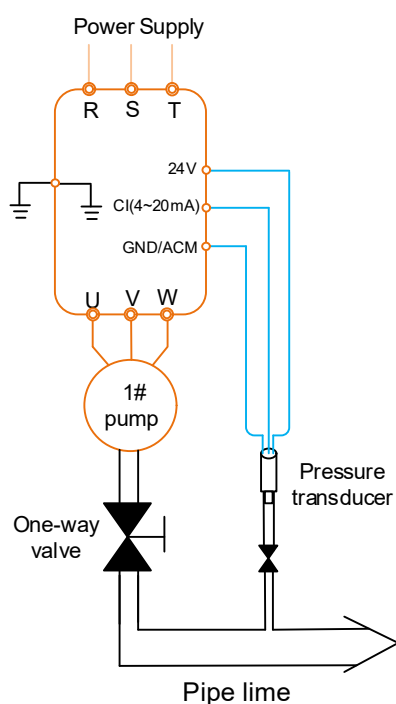
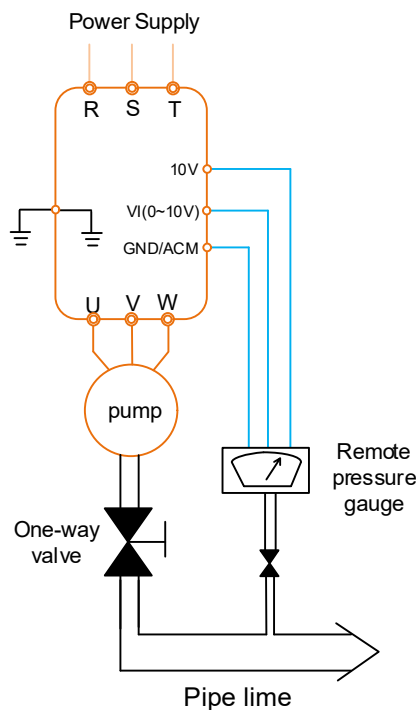

Fig 8.1 Connect with pressure transducer
Fig 8.2 Connect with remote pressure gauge
- ① Main circuit, please connect the power supply to R, S, T (Single phase please connect R, T), and output side please connect U, V, W with pump.
- ② Connect the pressure transducer or remote pressure gauge to KD388 correctly, please refer to Fig 8.1 and Fig 8.2 for details.
- ① Set F0-00=0 (Manual operation mode) firstly, start ARA388 and check whether the running direction of pump is correct. If the running direction is incorrect, change the value of F0-02 or change any two motor cables connection.
- ② Under manual operation mode, discharge the air inside the pump and pipe line.
- ① Set correct value in F0-04.
- ② Under manual operation mode, start ARA388/ARA386 and check whether the feedback pressure and real time display pressure on ARA388/ARA386 are the same. Long time press [▲][▼] to increase or decrease pump speed to check whether the feedback pressure is changed accordingly, if the feedback changes, it means the pressures transducer's wiring connection is correct,
- ① While start ARA388 at the first time or forget some parameters, please set F0-24=1 to initialize the factory default value.
- ② Set parameters one by one based on the parameters list.